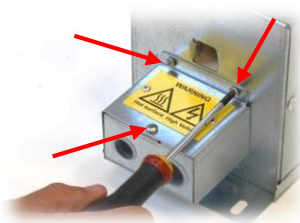

Figure 1
2. remove the cover by unscrewing the 3 screws as shown in the Fig. 1.
10. Close the lid by screwing 3 screws as shown in the Figure 1, max clamping torque is 1,3 Nm.